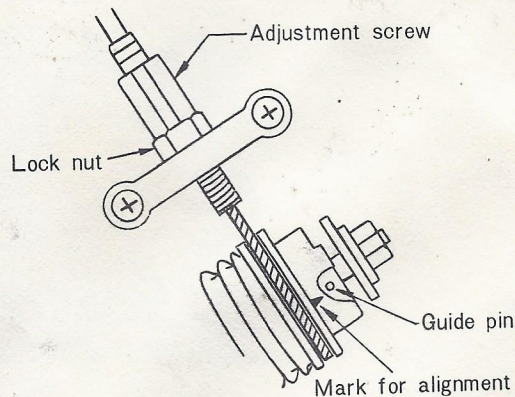

Fig. 2-3-6
- ① If the mark on the pump guide pin is not aligned with that of the adjusting pulley, loosen the lock nut shown in Fig. 2-3-6.